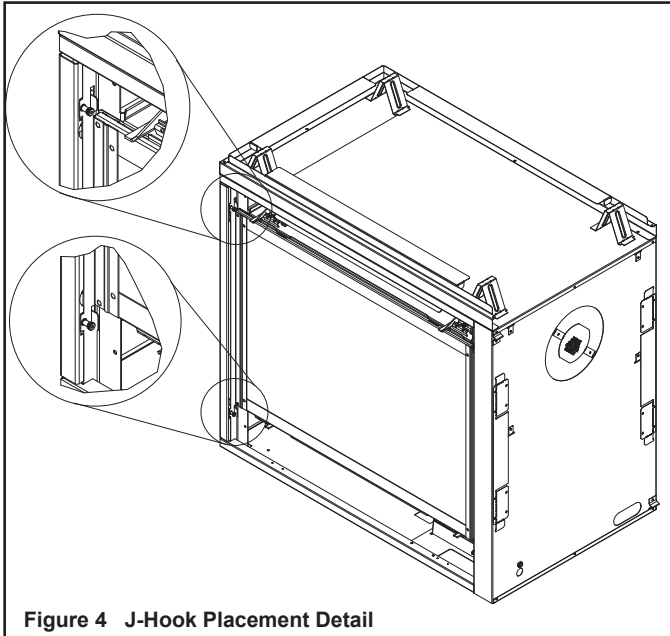

Figure 4 J-Hook Placement Detail
5. Visually inspect J-Hook connection points to assure proper placement. See Figure 4.